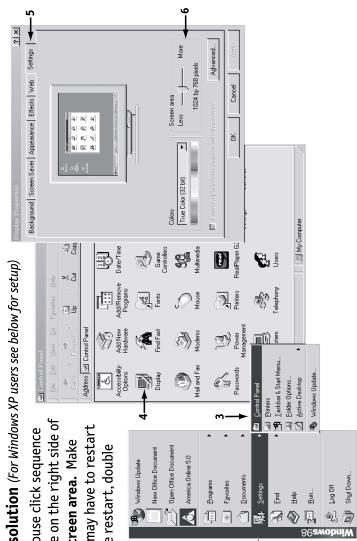

Figure 1
Open the Display Properties window by following the mouse click sequence (1-5) indicated by the numbers of Figure 1. Next, notice on the right side of the Display Properties window, there is a box labeled Screen area. Make sure the "Screen" slide bar (6) is set to 1024x768. You may have to restart your computer for this change to take effect. After the restart, double check the Display Properties/Settings window to make sure you are now at 1024x768.